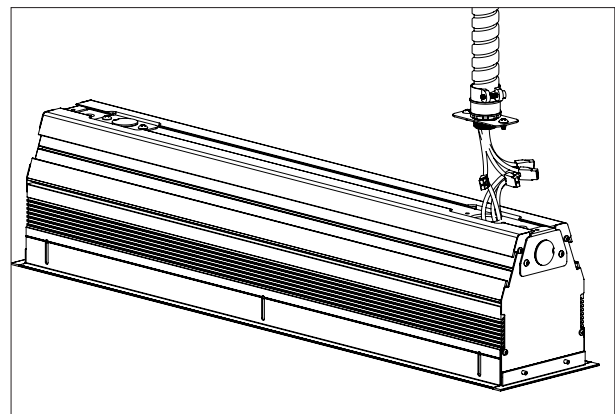

fig. 20
- Power drop in a continuous run: Remove the top conduit plate. (see fig. 20).